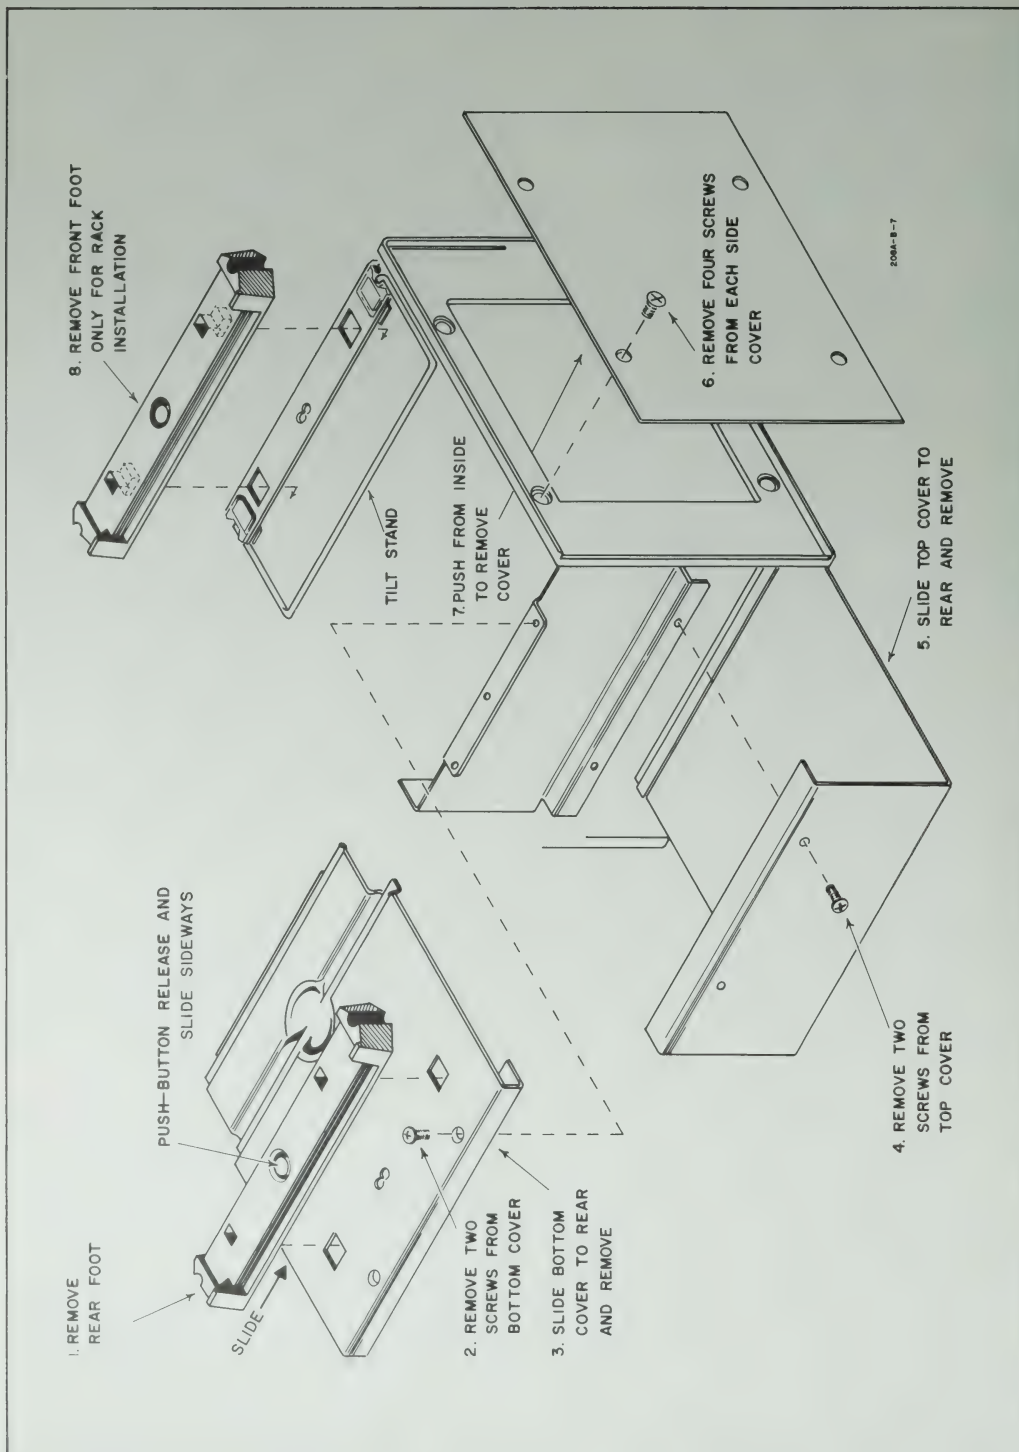

Figure 5-1. Cover Removal
5-10. Figure 5-1 illustrates the removal of all covers. This should be necessary only when maintenance is required.
- Remove all instrument covers (see Figure 5-1).